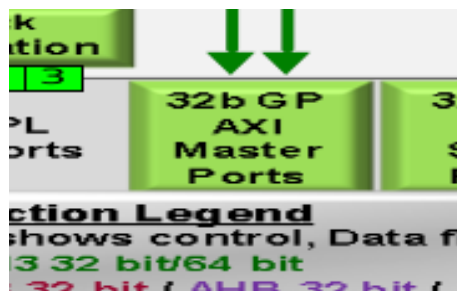

Figure 2: The 32b GP AXI Master Ports block in the System Assembly view Zynq tab.
5.10. Select the green **32b GP AXI Master Port** (refer to Figure 2) to open the processing_system7_0 Configuration Window.